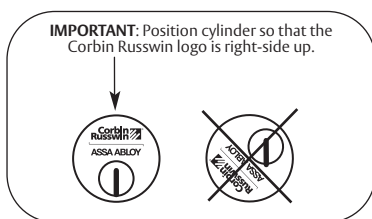

Fig. 10A
- Verify orientation of cylinder so that Corbin Russwin logo is right-side up (Fig. 10A).